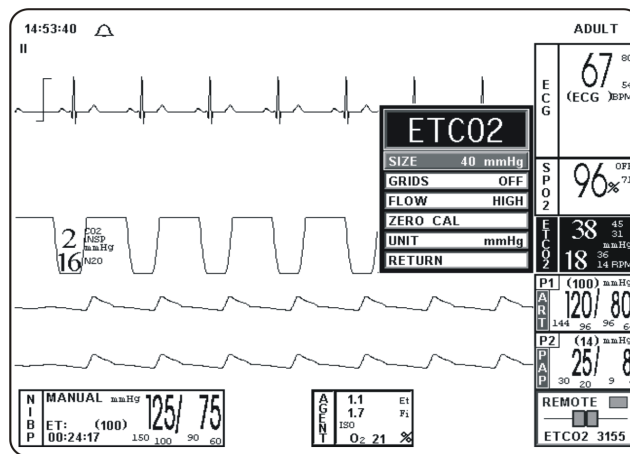

Figure 4-17. The ETCO2 Menu
4.6.3 ETCO2 Menu. (See **Figure 4-17**) The menu for the ETCO2 is brought up with the selection of the **ETCO2** Menu-Select icon. *This menu has a time-out feature. If no action is taken for approximately 60 seconds, the monitor will automatically return to the Normal Screen.*